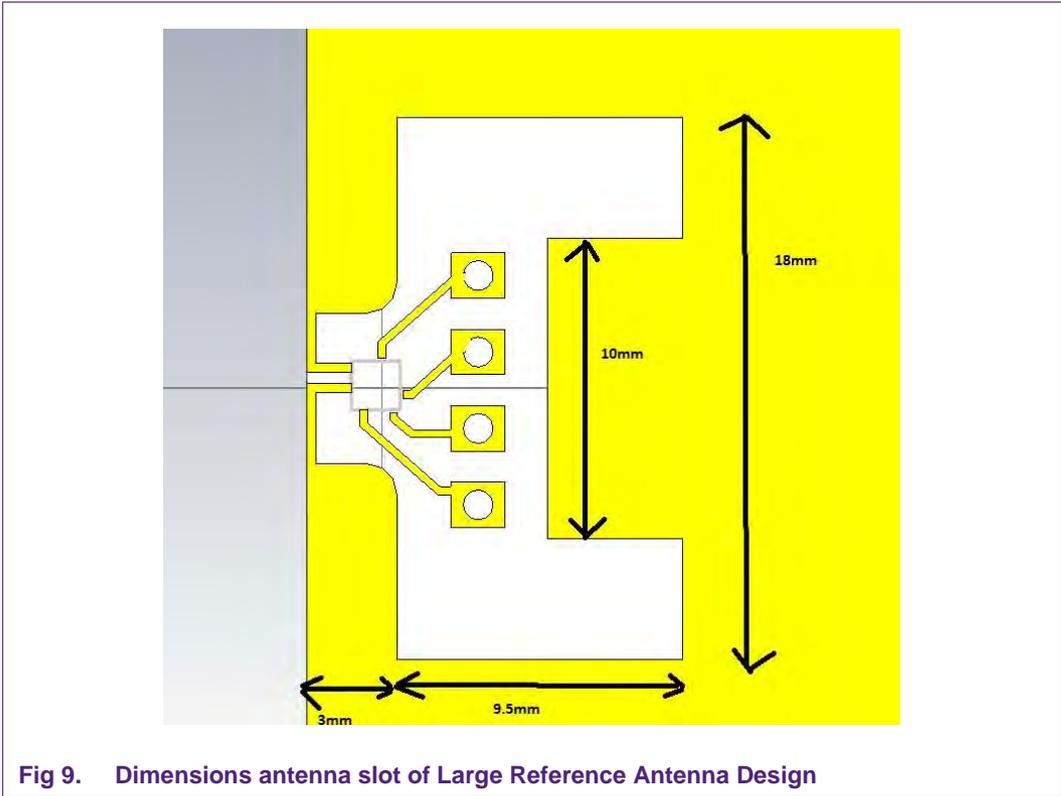

Fig 9. Dimensions antenna slot of Large Reference Antenna Design
The surface that is marked with the dotted line marks the minimum size of the ground plane. Fig 9 shows the dimensions of the antenna slot.
- Dimensions of the UHF antenna: 18mm x 12.5mm (see figure Fig 9)